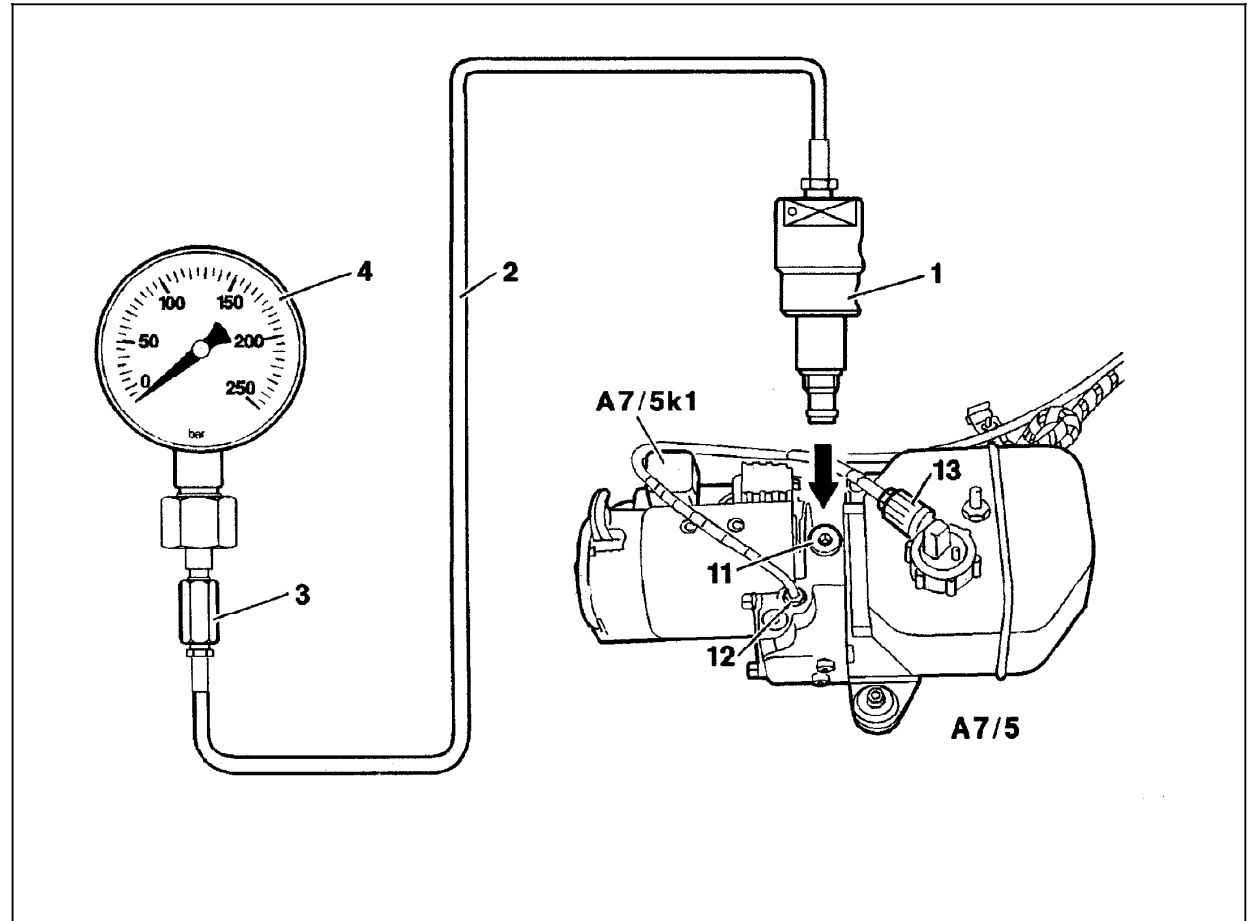

Figure 4
- A. Connection of test equipment to hydraulic unit (Figure 4).
**Ignition ON:** Activate power soft top switch (toward lower if the soft top is down, toward raise if the soft top is up) for 5 seconds. Have a second technician disconnect relay (A7/5k1, Figure 4). Hold power soft top switch for 5 additional seconds. Read and record test pressure.
**Ignition ON:** Activate RB switch (toward lower if the roll bar is lowered, toward raise if it is raised) for 5 seconds. Have a second technician disconnect relay (A7/5k1, Figure 4). Hold roll bar switch for 5 additional seconds. Read and record test pressure.